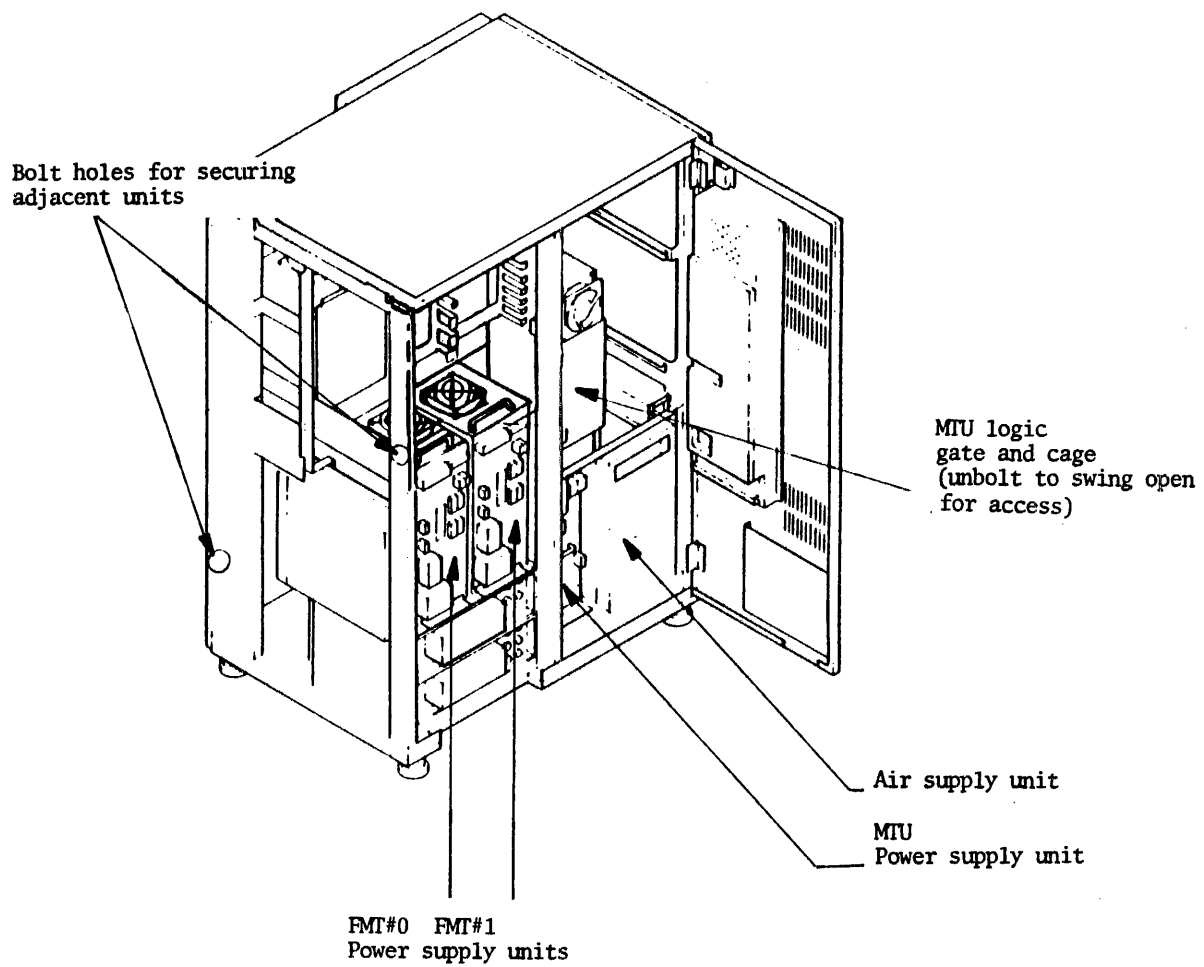

Figure 1-4. Master unit (rear view).
- (1) Remove the covers of the input selection terminals of the FMT and MTU power supplies. The location of MTU and FMT power supply units are shown in Figure 1-4. These covers are located at the rear of the MTU and FMT and are labeled INPUT VOLTAGE SELECTION.
- (2) Select the FMT terminal that corresponds to the voltage label, and connect a jumper between that terminal and COM.
- (3) Select the MTU terminal that corresponds to the voltage label, and connect the red lead to that terminal and the black lead to COM.
- (4) Reinstall the covers on the FMT and MTU power supplies.